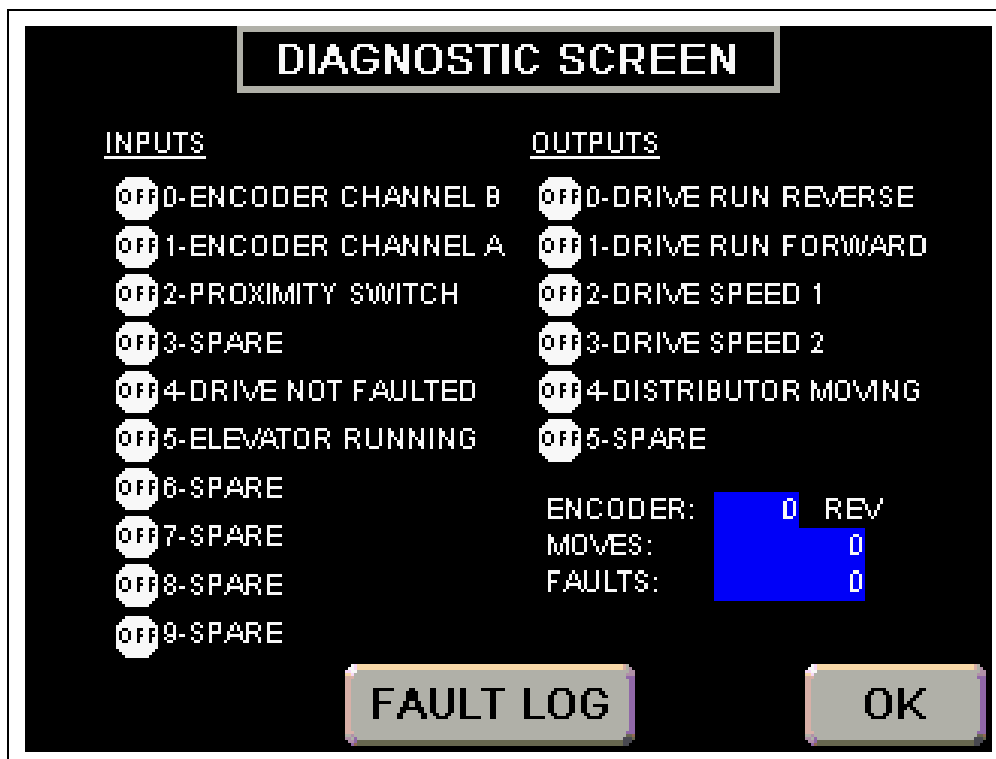

Figure 4Z Diagnostic Screen
**Diagnostic Screen:** Displays the status of the inputs and outputs of the Programmable Logic Controller (PLC) as well as the current encoder position count and rotation direction. (See Figure 4Z on Page 35.)